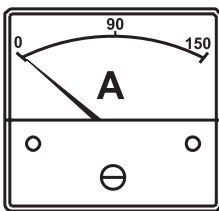

Figure 50. Ammeter (No Load)
6. The ammeter (Figure 50) will indicate **zero amps** with no load applied. When a load is applied, the ammeter will indicate the amount of current that the load is drawing from the generator.